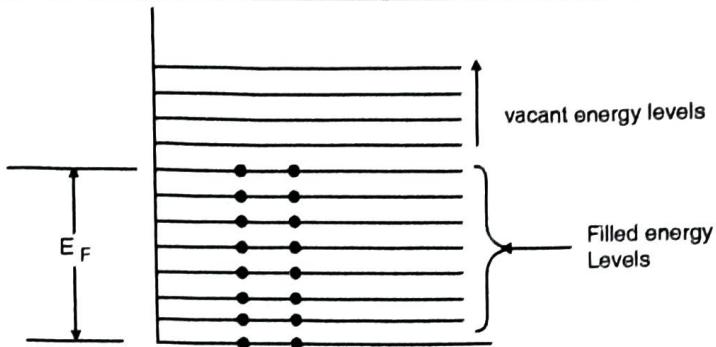

Fig. 3.5.1 : Fermi energy
- However, there will be many more allowed energy levels left vacant as shown in Fig. 3.5.1.